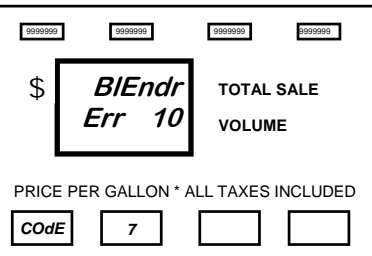

Figure 7.7
- When the correct option number appears in the main display, press the **ENTER** button to save the selection and Figure 7.7 appears.
If the dispenser has not been programmed since it came from the factory, the number 10 appears in the main display. This is the default setting. See Figure 7.7.